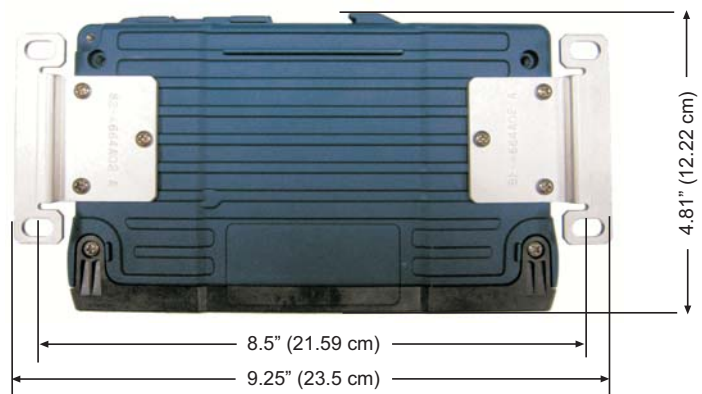

Figure 3. Mounting Bracket Dimensions
1. **Mount the unit.** Attach the supplied brackets to the bottom of the case (if not already attached), using the screws provided. Mounting bracket dimensions are shown in Figure 3. If DIN Rail mounting brackets are to be used, consult the *Technical Manual* for details.